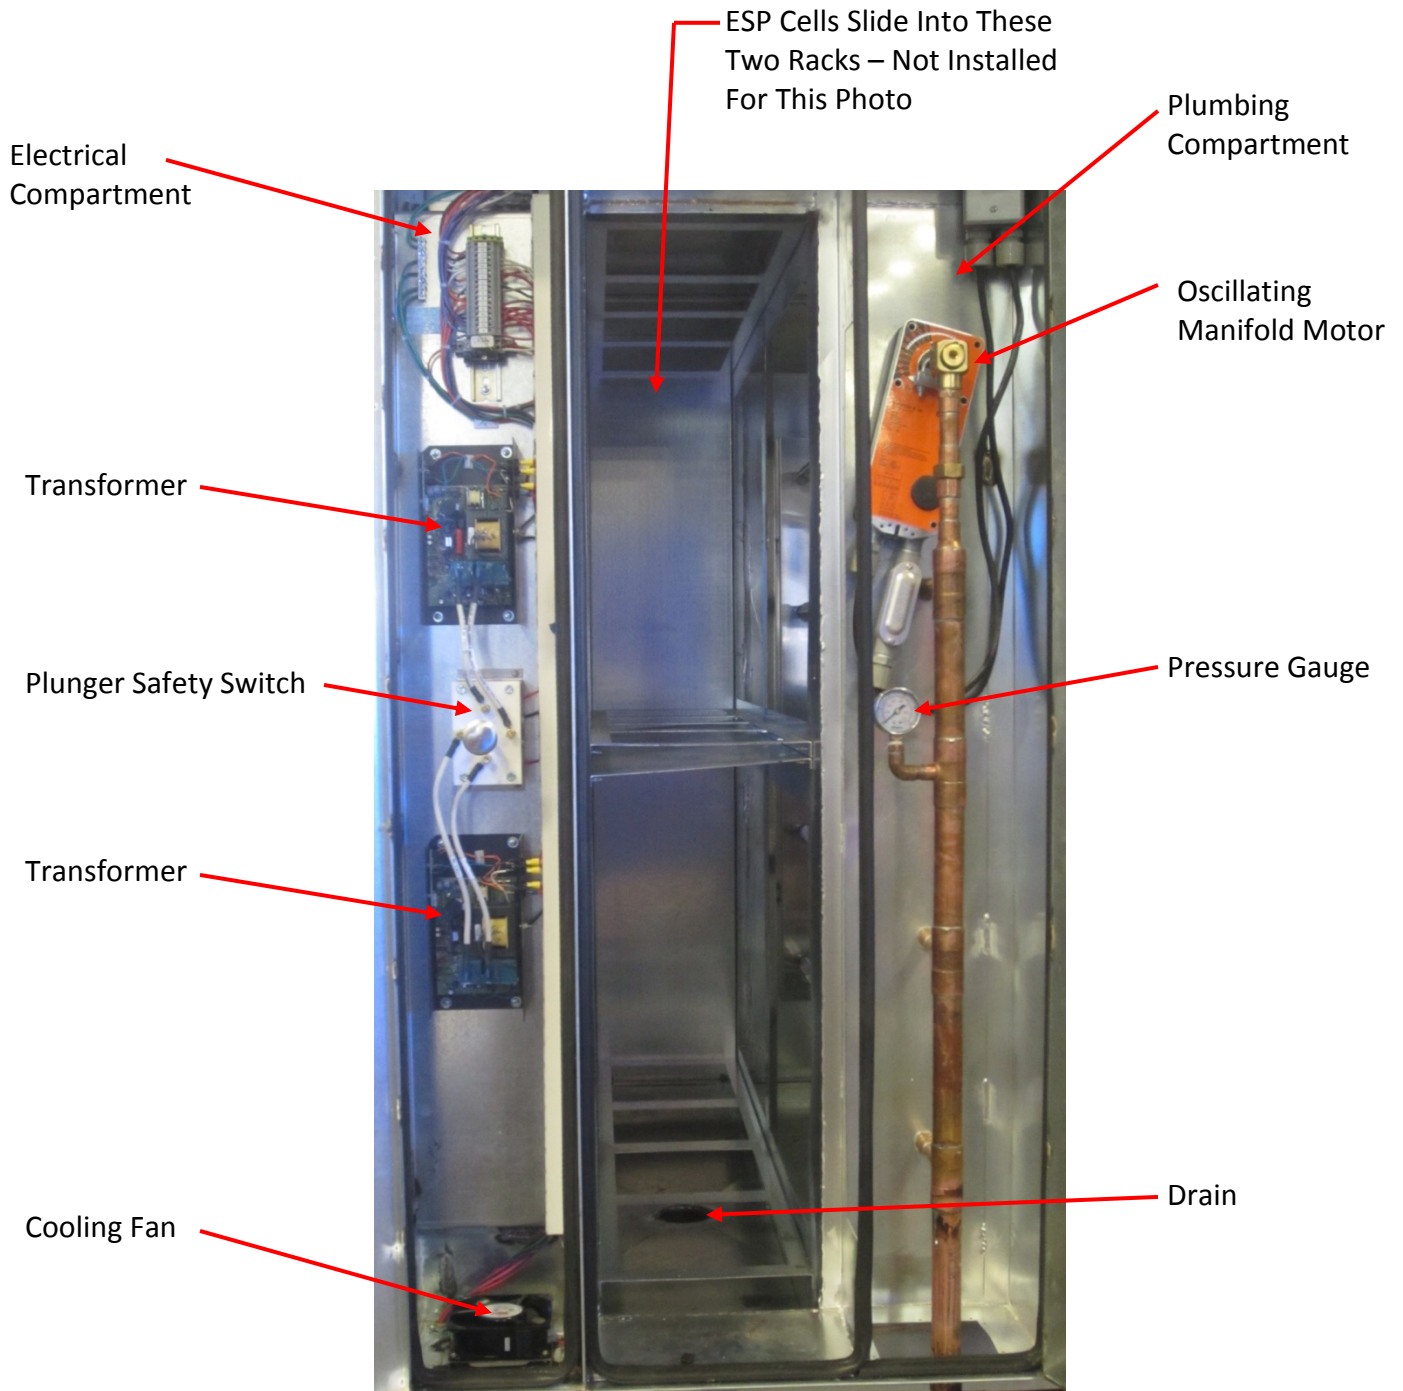
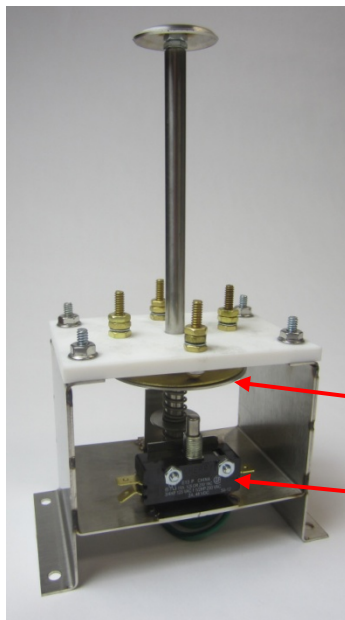

Figure 4-17-1
Figure 4-24-1
1. Open the Electrical Compartment door first (the smaller door) and then the Cell/Plumbing Compartment door. Opening the Electrical Compartment door releases the Plunger Safety Switch, shutting off power to the transformer by releasing the micro switch, and draining residual power from the transformer(s) by the Grounding Disc making contact with the brass grounding screws (Refer to Figure 4-17-1 and 4-24-2).
Proper voltage through the ESP Cells is essential for maximum smoke removal. There is one or more power supply Transformers located in the electrical compartment of the ClearAir unit (Refer to Figure 4-17-1). The quantity is dictated by the number of Cells, but typically there is one transformer(s) for every row of Cells. The transformer(s) outputs 5,000 volts DC to the repelling plates of the Cell and 10,000 volts DC to the ionizing wires. The voltage of each transformer is monitored by a green status light located on the main Control Cabinet, and on the electrical compartment door of the ClearAir unit (Refer to Figure 3-2-1). A solid green light indicates that the ESP Cells are operating properly.
1. Open the Electrical Compartment door first (the smaller door) and then the Cell/Plumbing Compartment door. Opening the Electrical Compartment door releases the Plunger Safety Switch, shutting off power to the transformer by releasing the micro switch, and draining residual power from the transformer(s) by the Grounding Disc making contact with the brass grounding screws (Refer to Figure 4-17-1, 4-24-1 and 4-24-2).
1. There is one or more Plunger Safety Switch located in the Electrical Compartment (Refer to Figure 4-17-1 and 4-24-1). The Plunger Safety Switch, when released by opening the Electrical Compartment door, shuts off the power to the power supply transformer and bleeds power from the transformer, by the Grounding Disc making contact with the brass grounding screws (Refer to Figure 4-17-1, 4-24-1 and 4-24-2). There are two potential areas that can cause failure of the Plunger Safety Switch. The first is a mechanical failure and the second is a failure of the micro switch (Refer to Figure 4-24-1). To test for these two situations proceed as follows:
1. Open the Electrical Compartment door first (the smaller door) and then the Cell/Plumbing Compartment door. Opening the Electrical Compartment door releases the Plunger Safety Switch, shutting off power to the transformer by releasing the micro switch, and draining residual power from the transformer(s) the by Grounding Disc making contact with the brass grounding screws (Refer to Figure 4-17-1 and 4-24-1).